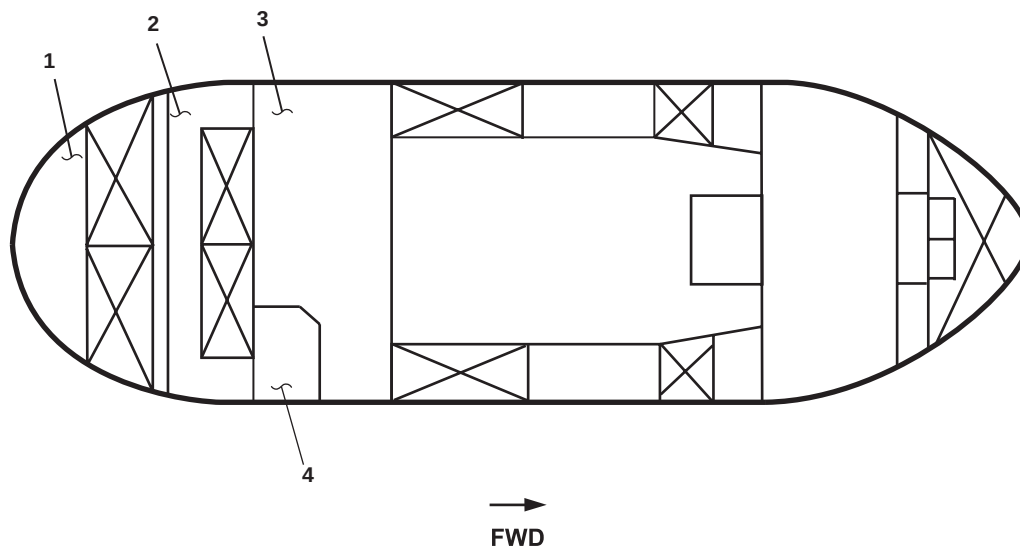
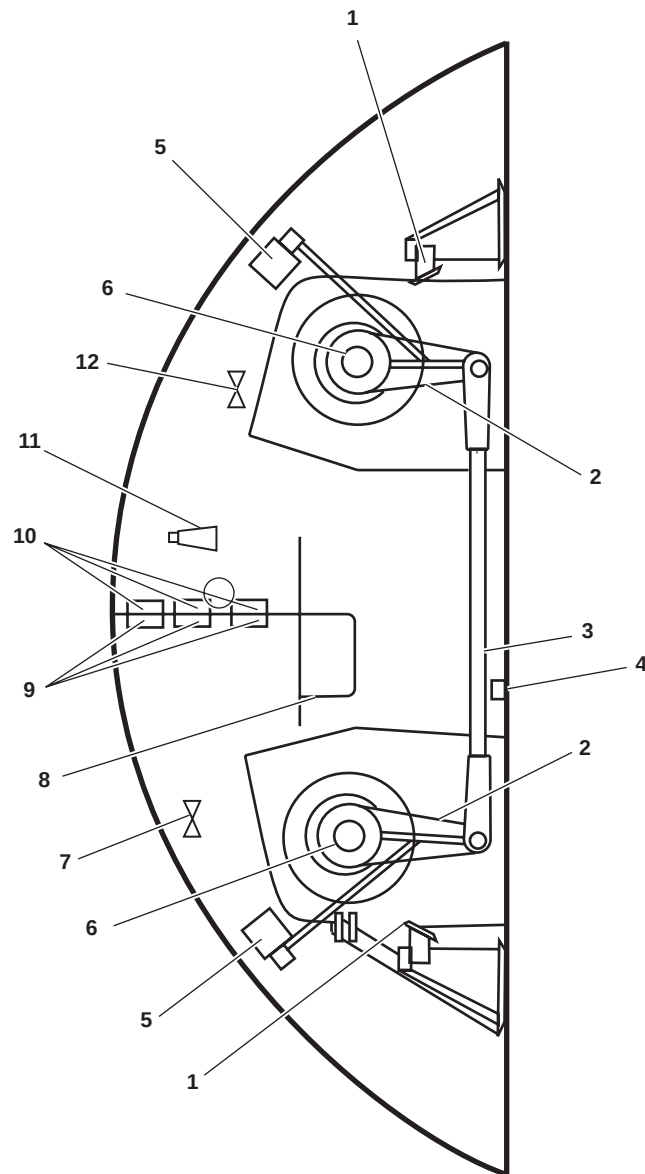
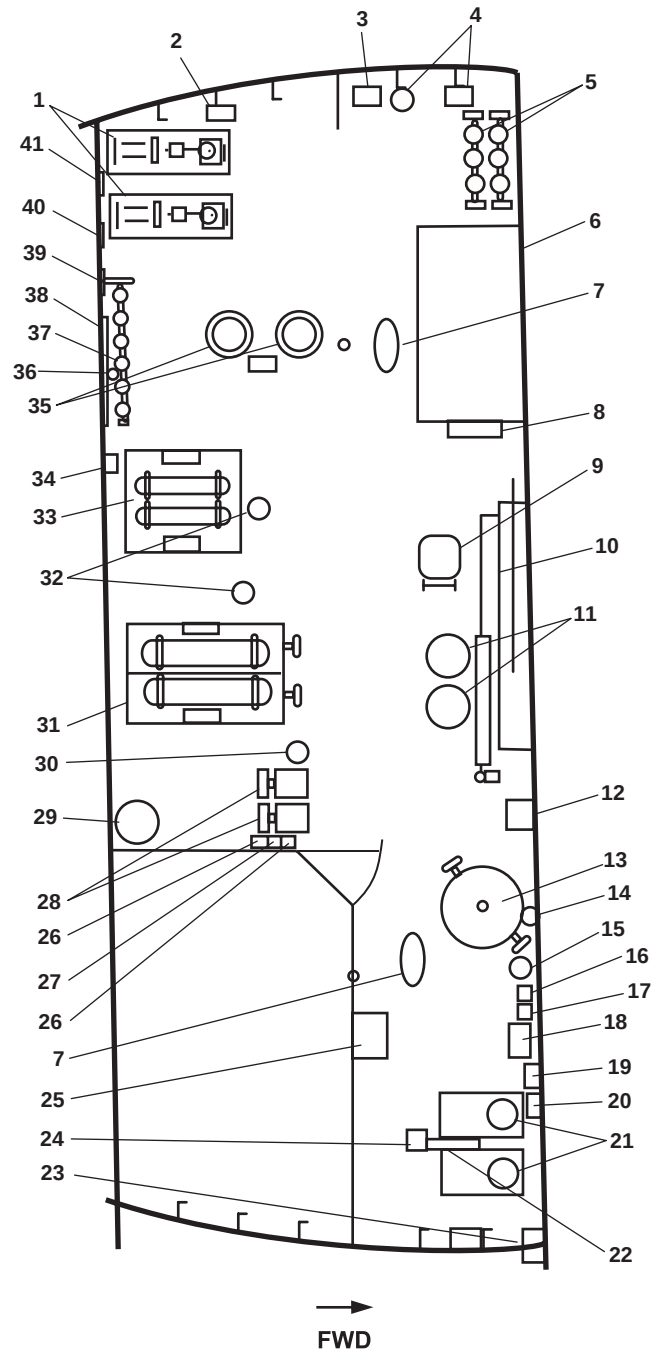

Figure 1. Below Main Deck, Aft of Engine Room
Figure 2. Steering Gear Compartment
Figure 4. AMS 2
1. Steering gear compartment (figure 1, item 1). This space houses all the equipment necessary to steer the vessel. Details of this space are contained in figure 2.
2. Towing gear locker (figure 1, item 2). This space provides stowage for the vessel's towing gear and equipment. Details of this space are contained in figure 3.
3. AMS 2 (figure 1, item 3). AMS 2 houses the various components and equipment. Details of this space are contained in figure 4.
4. Workshop (figure 1, item 4). The workshop provides workspace and equipment necessary to make on-board repairs. The details of this space are contained in figure 5.
1. Rudder stop (figure 2, item 1). The rudder stop limits the swing of the rudder to a maximum of 35 degrees to port or starboard.
2. Tiller arm (figure 2, item 2). The tiller arm connects the rudder post to the tie bar.
3. Tie bar (figure 2, item 3). The tie bar connects the tillers, providing unified tiller movement.
4. Raw water eductor gauge (figure 2, item 4). The raw water eductor gauge indicates the pressure available at the eductor.
5. Steering system rudder feedback unit (figure 2, item 5). The steering system rudder feedback unit displays the status and angle of the rudder.
6. Rudderpost (figure 2, item 6). The rudderpost is the shaft that allows the rudder to pivot 35 degrees to port or starboard.
7. Overboard discharge bilge eductor valve BB-8 (figure 2, item 7). This valve, when OPEN, allows water to be removed from the bilge of the steering compartment to the eductor and overboard.
8. Raised access hatch (figure 2, item 8). The raised access hatch provides entrance/exit to the steering gear compartment.
9. Starboard tow pin control valves (figure 2, item 9). These solenoid valves control the raising and lowering of the starboard tow pins.
10. Port tow pin control valves (figure 2, item 10). These solenoid valves control the raising and lowering of the port tow pins.
11. Eductor (figure 2, item 11). The eductor is part of the bilge ballast general service system. When placed online it can rapidly remove water from a compartment.
12. BB-11, OVBD. DISCH. BILGE EDUC. (figure 2, item 12). This valve secures the overboard flow from the eductor.
1. Bilge and ballast pumps (figure 4, item 1). The bilge and ballast pumps are electric motor-driven pumps used to pump the bilges and fill or drain the ballast tanks.
2. Bilge and ballast pump pressure gauges (figure 4, item 2). These pressure gauges indicate the discharge pressure of the bilge and ballast pumps.
3. Ballast tank, tank level indicators (figure 4, item 3). These indicators display the fluid level in the ballast tanks.
4. Brominator system (figure 4, item 4). The brominator introduces bromine into the potable water tanks.
5. Ballast manifold (figure 4, item 5). This duplex manifold provides centralized control of the fluid level within the ballast tanks.
6. Reverse Osmosis Water Purification Units (ROWPU) (figure 4, item 6). Two ROWPUs convert raw water to fresh water at a rate of 33 to 99 gal/hr (125.6 to 250 L/hr). ROWPU 1 converts raw water to fresh water at a rate of 66 gal/hr (249.8 L/hr). ROWPU 2 converts raw water to fresh water at a rate of 33 gal/hr (125.6 L/hr).
7. Access hatch for shaft alleys (figure 4, item 7). The access hatch is a hinged deck plate that provides access to the shaft alleys.
8. 440V power panel No. 5 (figure 4, item 8). This panel provides 440 volts power distribution for AMS 2 equipment.
9. Scuttle (escape hatch) and ladder (figure 4, item 9). The scuttle and ladder provide an emergency escape from AMS 2.
10. Hydraulic sliding watertight door (figure 4, item 10). This door is a hydraulically powered sliding watertight door used to prevent flooding from one compartment to another.
11. Two 600 lb (223.9 kg) FM-200 cylinders (figure 4, item 11). These FM-200 cylinders store the FM-200 extinguishing agent used in the engine room and AMS 1 overhead fire suppression system.
12. Watertight door hydraulic hand pump (figure 4, item 12). This hand pump is used to open and close the engine room sliding watertight door.
13. Potable water hydropneumatic tank (figure 4, item 13). The potable water hydropneumatic tank provides water pressure to the potable water system.
14. FM-200 delay bypass cylinder (figure 4, item 14). When CLOSED, the FM-200 bypass cylinder provides a 60-second delay before the FM-200 extinguishing agent is released. When OPEN, the FM-200 bypass cylinder redirects CO₂ pressure to activate the FM-200 system immediately.